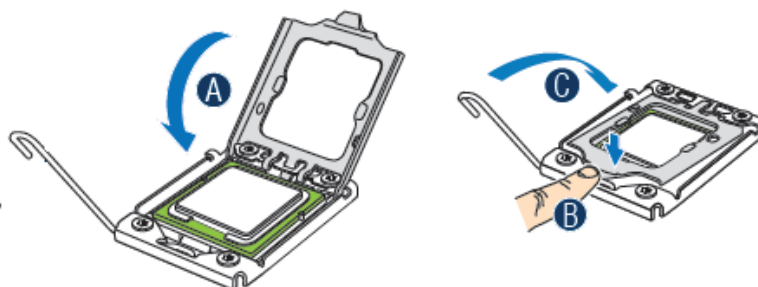

Figure 13. Close the Load Plate and Socket Lever
10. Close the load plate (see the letter “A” in Figure 13), close the socket lever and ensure the load plate tab engages under the socket lever when fully closed. (See letter “B” and “C” in Figure 13)